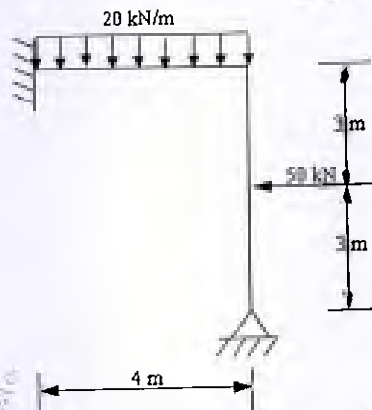

Figure 4
Q. 3. Analyse the structure as shown in figure 4 using **Direct Stiffness method** and hence draw the SFD and BMD. 12